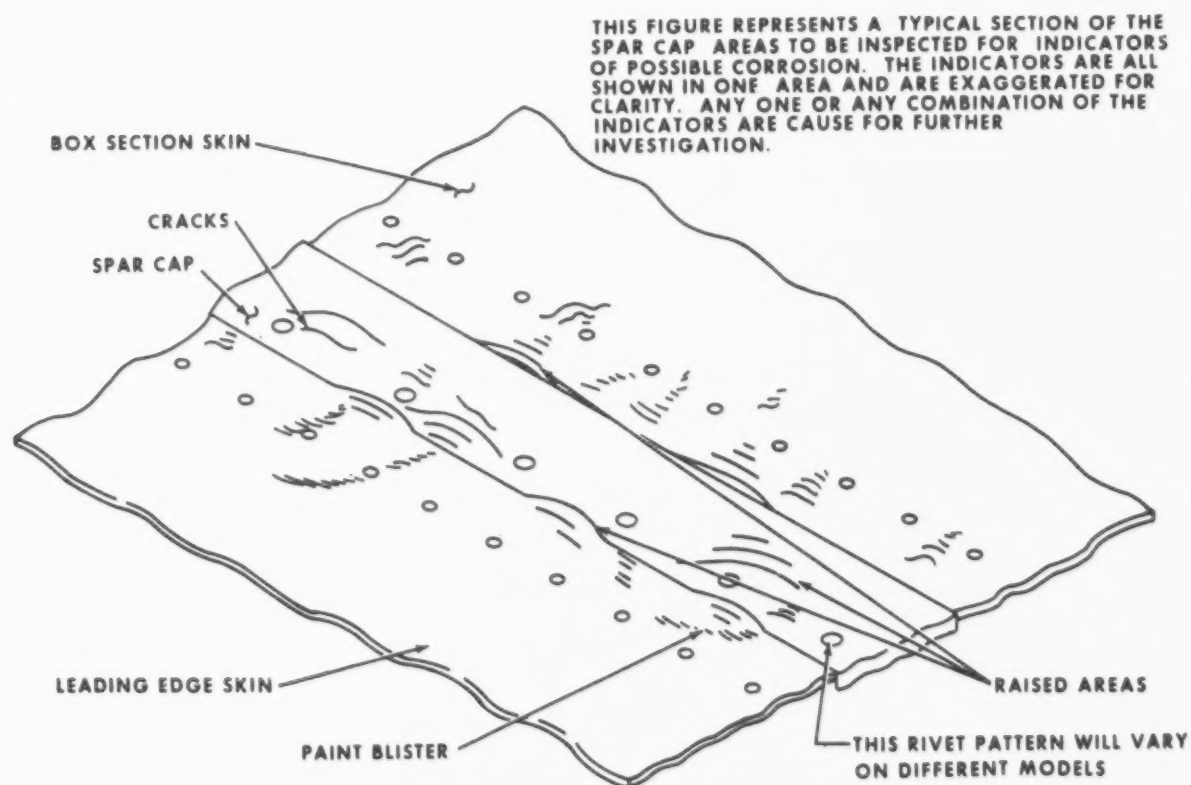
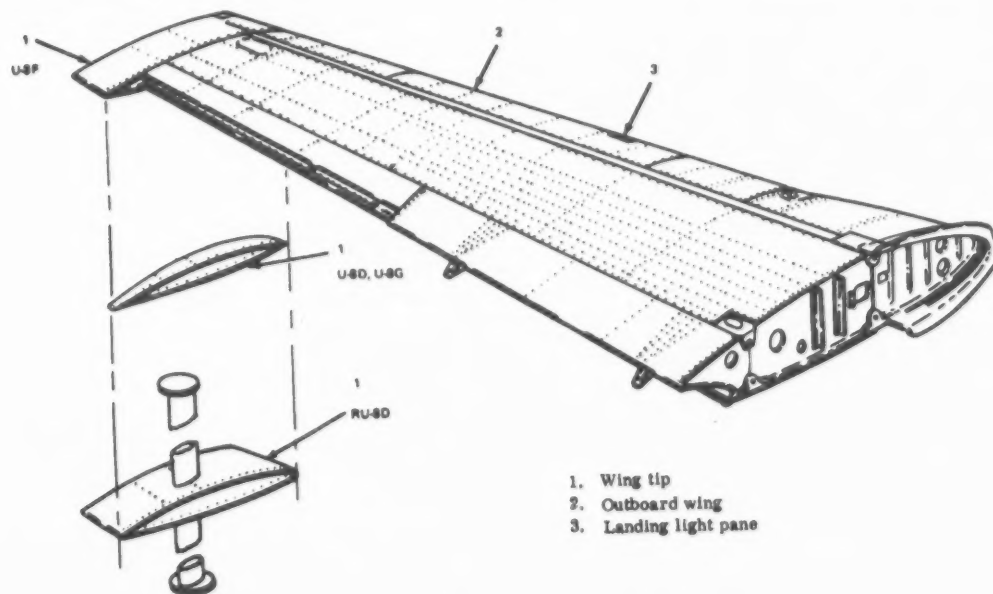

Figure 4-32A Spar cap inspection
Figure 4-33. Outboard wing and wing tip installation
Inspect all exposed areas of the upper and lower spar caps for paint blisters, raised areas and/or unevenness and cracks in the metal. Paint blisters could be caused by corrosion; therefore, if blisters are detected during the visual inspection, the area of the blister should be examined closely for unevenness and/or raised areas and cracks in the metal. The exposed areas of the spar caps are extruded flat; therefore, areas of unevenness and/or raised areas on the spar caps should indicate corrosion and should be considered suspect areas. (See Figure 4-32A).
4-248. The outboard wings (2, figure 4-33) are attached to the outboard ends of the center wing on each side of the fuselage. Each outboard wing consists of the leading edge assembly, spar assembly, and panel assembly. The leading edge assembly and panel assembly are attached to the spar assembly by piano-type hinges. Each leading edge assembly has a landing light pane (3). In addition, the left leading edge assembly has a stall warning sensing unit. (Refer to paragraph 12-159 for maintenance of the stall warning sensing unit.)
b. Inspection. (1) Remove access covers and open access door to gain access to interior components of outboard wings.
(2) Inspect ribs and spars for cracks, buckling, corrosion, and loose or missing rivets. Inspect all exposed areas of the upper and lower spar caps for paint blisters, raised areas and/or unevenness and cracks in the metal. Paint blisters could be caused by corrosion; therefore, if blisters are detected during the visual inspection, the area of the blister should be examined closely for unevenness and/or raised areas and cracks in the metal. The exposed areas of the spar caps are extruded flat; therefore, areas of unevenness and/or raised areas on the spar caps could indicate corrosion and should be considered suspect areas. (See Figure 4-32A).
4-250. The landing light panes (3, figure 4-33) are installed on the leading edges of outboard wings (2). Each landing light pane is a sheet of acrylic plastic formed to the contour of the leading edge of each outboard wing with a rubber seal around the edges. The landing light panes cover the recess for the landing lights. The top of each landing light pane is painted black to reduce glare in the flight compartment.
a. Removal. (1) Remove screws securing retainers for landing light panes (3, figure 4-33) on leading edges of outboard wings (2). Remove retainers.
(2) Remove landing light panes (3) from leading edges of outboard wings (2).
c. Inspection. (1) Inspect landing light
(2) Inspect retainers for cracks and dents; rubber seal for security of attachment.
d. Installation. (1) Position landing light panes (3, figure 4-33) on leading edges of outboard wings (2).
(2) Position retainers on landing light panes and secure with screws.
4-252. A wing tip (1, figure 4-33) is installed on the outboard end of each outboard wing (2). The wing tips are formed from two sheets of aluminum spot welded together. A navigation light is mounted on the outboard end of each wing tip on U-8D, U-8G, U-8F, and one on top and one on bottom of the RU-8D wing tip.